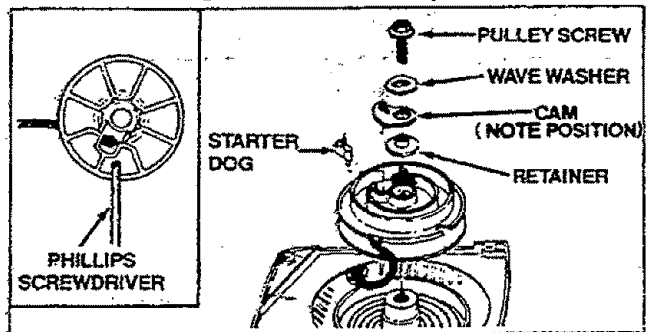

Figure 39
8. Feed the rope through the round starter hole in the the fan housing. Figure 39.
9. Guide rope inside pulley, then through topside pulley hole by pushing the rope from the underside hole with a small round object, such as a Phillips screwdriver. See inset. Figure 39.
**NOTE:** If you remove the pulley screw from the pulley make sure the starter dog, retainer, cam and wave washer are positioned and installed properly as shown in Figure 39. If parts have been cleaned, apply a small amount of grease to both sides of the cam and wave washer.
14. Make sure the cam is installed on the starter dog in the direction shown in Figure 39. Also make sure the wave washer is seated around the top outer edge of the retainer and not caught between the top of the retainer and the pulley screw.